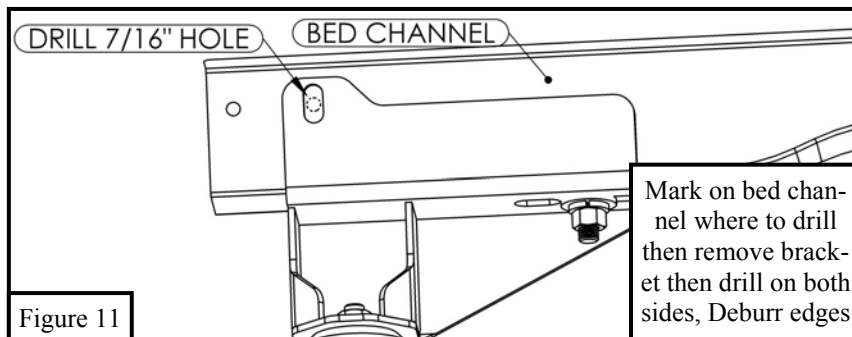

Figure 11
- Once step bar assembly and isolator assembly are aligned, mark two locations on the bed channel to drill. Remove bed mount bracket assembly off the bed channel and then drill two 7/16" holes on the bed channel. Deburr edges if needed. **See Figure 11**